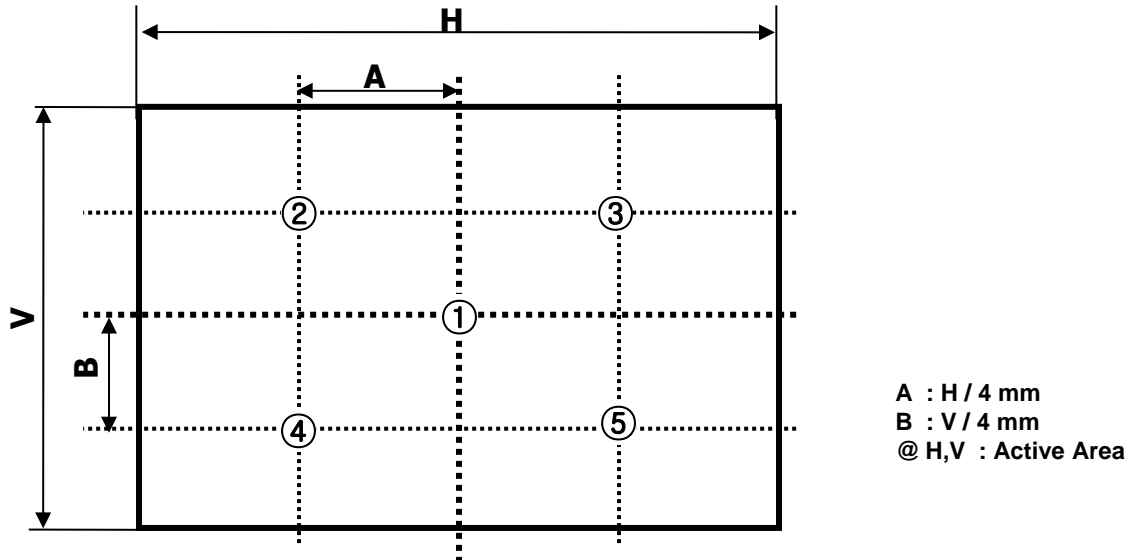

FIG. 2 5 Points for Luminance Measure
n = the Position number(1, 2, 3, 4, 5). For more information, see FIG 2.
2. Surface luminance are determined after the unit has been 'ON' and 60min after lighting the backlight in a dark environment at  $25 \pm 2^\circ\text{C}$ . Surface luminance is the luminance value at center 1-point across the LCD surface 50cm from the surface with all pixels displaying white. For more information see the FIG. 2.